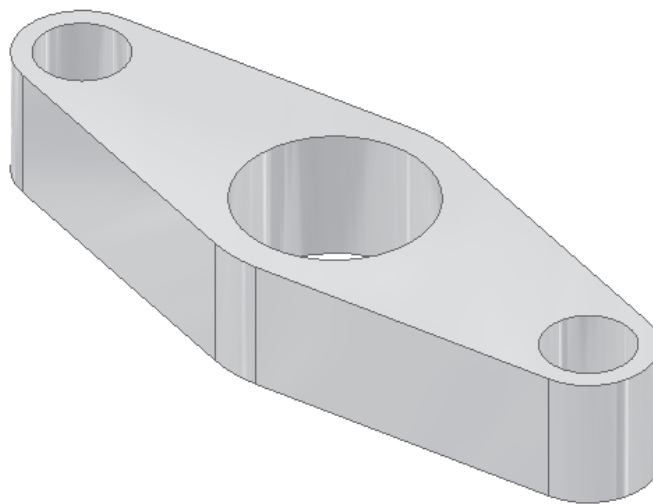

Figure 3-64 Final model for Tutorial 3
- Choose the **X-Ray Ground Shadow** button to cast the X-ray ground shadow, refer to Figure 3-64.
You may need to change the camera type to parallel from the **Inventor Standard** toolbar if you use the same session of Autodesk Inventor in which you changed the camera type to perspective in Tutorial 2. The final model is shown in Figure 3-64.